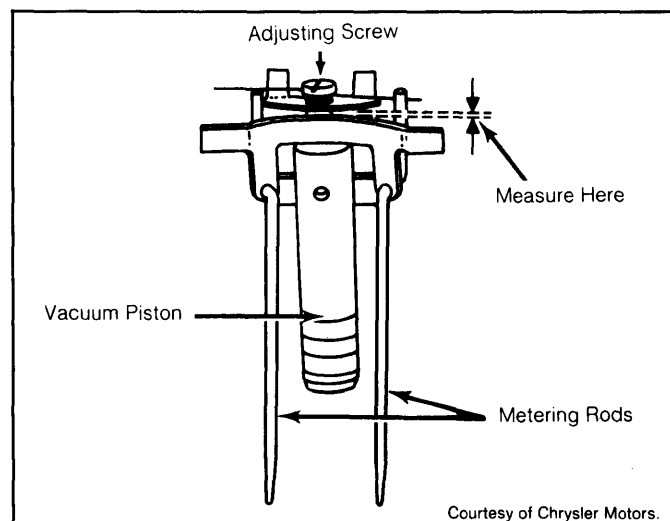

Fig. 3: Vacuum Step-Up Piston Gap Qualification
- 2) Measure piston gap. See Fig. 3. If not to specifications, adjust Allen head screw on top of piston.